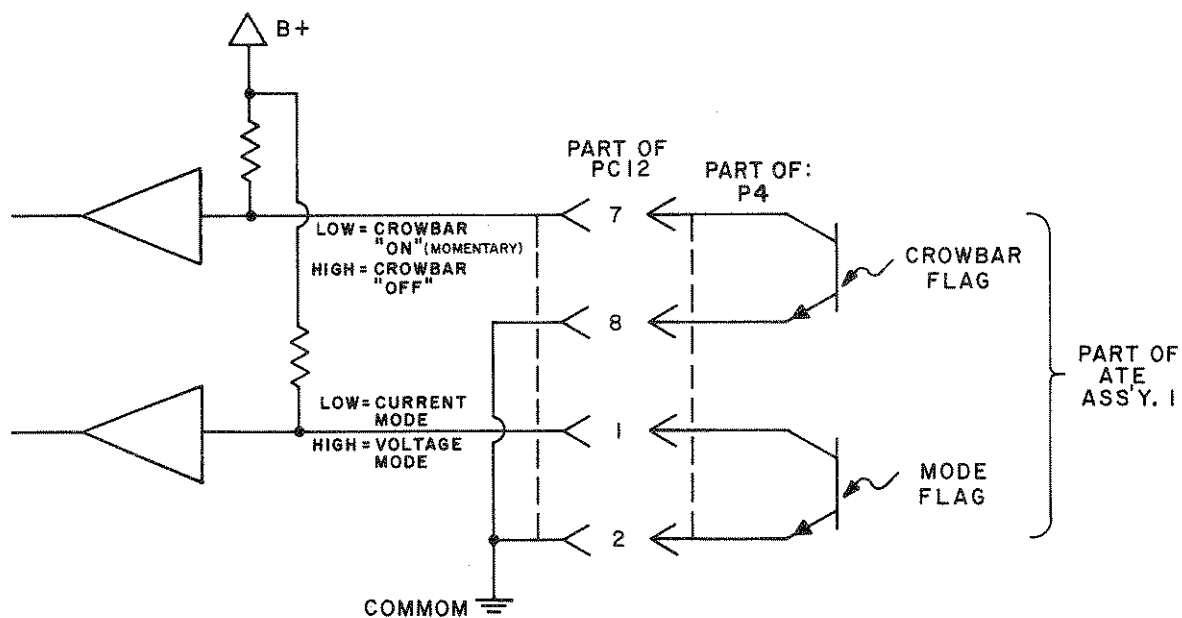

FIG. 3-31 ISOLATED FLAG SIGNAL OUTPUTS.
3-122 Two opto-isolated flag signals are provided at the rear programming connector (PC-12). One of them signals the ATE operating mode (Voltage or Current Mode), the other one provides a signal to indicate that the ATE crowbar has been tripped. Both flag signals consist of the Collector/Emitter terminals of a Photo-Transistor Optical Isolator and change their impedance from high to low if activated. The ATE flag signals may be converted to TTL logic signals as indicated in FIG. 3-31. The photo transistors are capable of sinking at least one (1) standard TTL load (1.6mA). Since the crowbar flag signal is followed by the shut-down of the ATE power supply, the flag signal is the form of a pulse, rather than a permanent level shift.